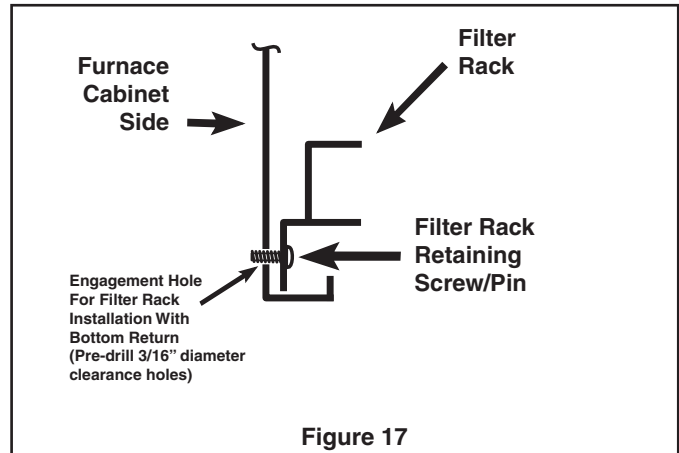

Figure 17
- With the filter removed, the filter rack is compressed and then inserted into the bottom of the furnace. The retaining screw/pin on each side inserts into engagement holes at the bottom of the furnace cabinet side. See Figure 17.